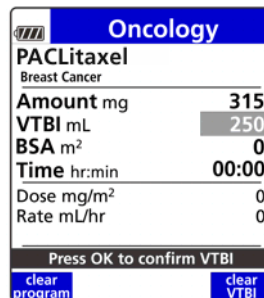

Figure 98. Enter VTBI. See important note on page 83.
- Enter VTBI. Press **OK**. See Figure 98.